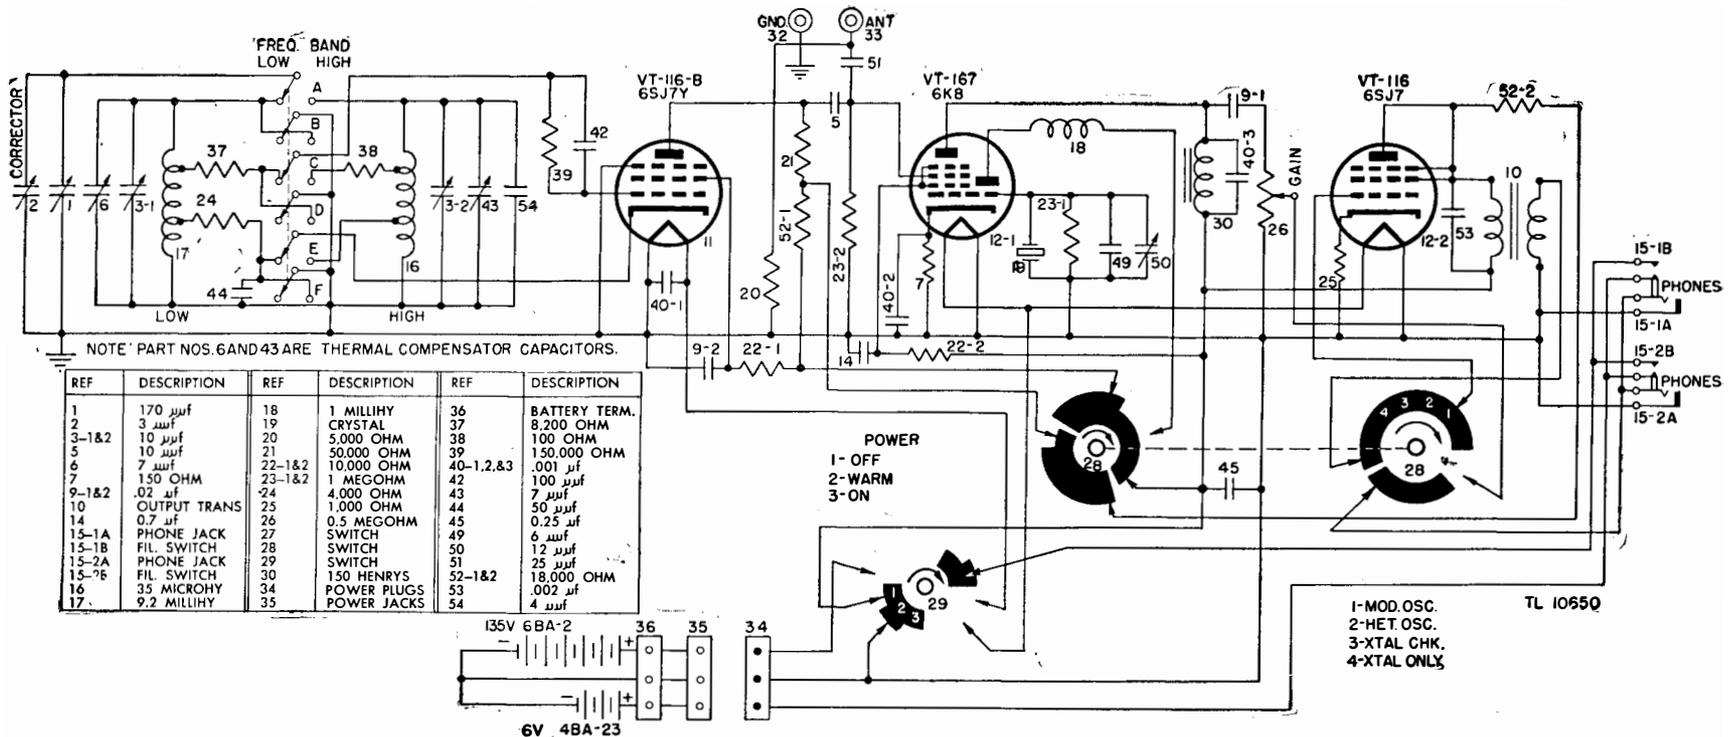

Figure 99. Frequency Meter BC-221-A7, schematic diagram.
ulator circuit. The POWER switch has three positions instead of the two positions formerly used. At the third position of the POWER switch, WARM-UP, only the filament of variable frequency oscillator Tube VT-116-B (6SJ7Y) draws current. (See figs. 99 and 100.)
e. **OSCILLATOR FUNCTION.** (1) The variable frequency oscillator circuit is in operation whenever the POWER switch 29 is in the ON position, the operation switch 28 is in the MOD. OSC., HET. OSC., or XTAL CHK position, and a headset is plugged into a PHONES jack. (See figs. 99 and 100.)
328. Power Supply Circuit (figs. 99 and 100)